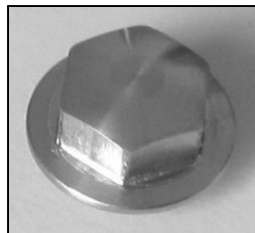

FIG. 16
24. Mount the tank cover with new cap nut (FIG. 16) and tighten it with a torque wrench to 3.5 Nm / 31 in-lb.